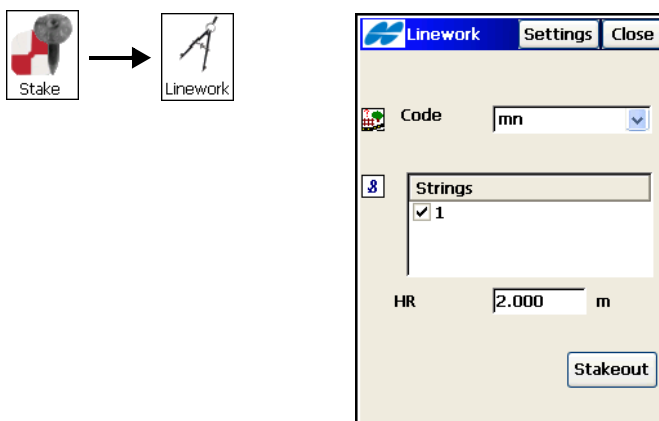

Figure 9-52. Linework
2. On the **Linework** screen (Figure 9-52), tap the **Settings** button and specify the Stakeout parameters as described in “Stakeout a Point” on page 9-2.
3. On the **Linework** screen, select a code from the drop-down list, and check necessary strings (Figure 9-52).